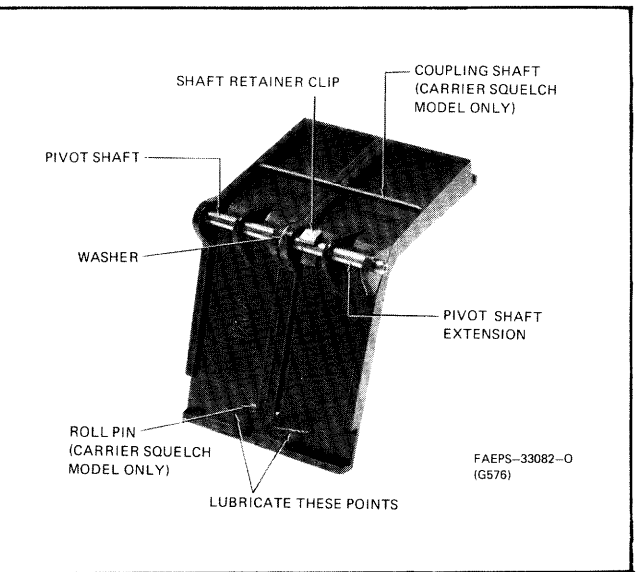

Figure 2. Pivot Shaft Detail
Step 3. Remove the shaft retainer clip from the pivot shaft (see Figure 2).